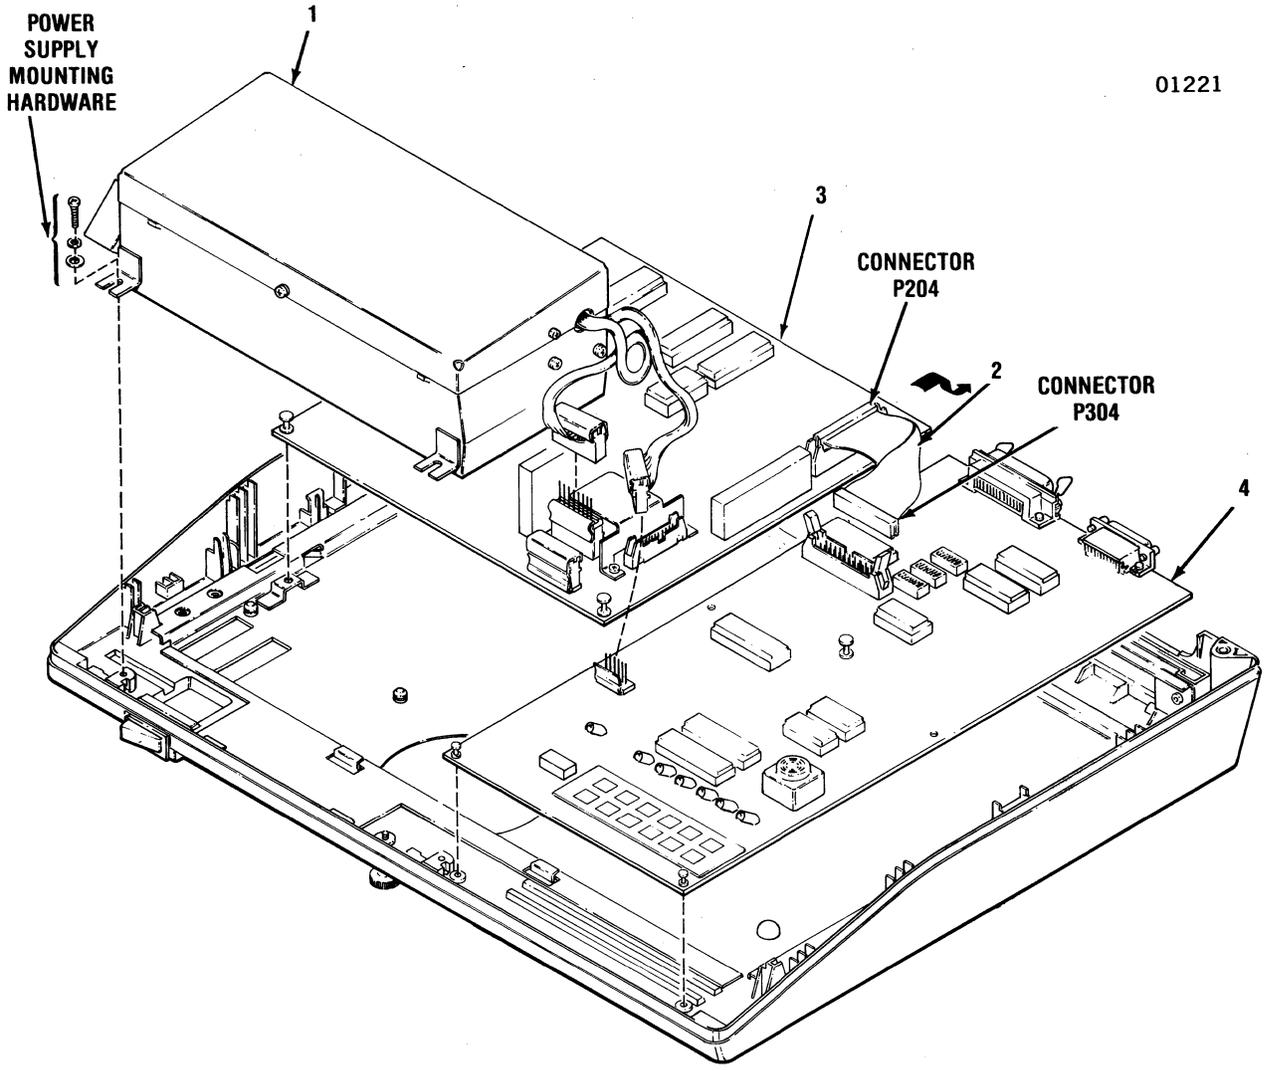

Figure 5-18. REMOVAL/REPLACEMENT POWER SUPPLY ASSEMBLY, FORMAT/CONTROLLER CABLE PRINT CONTROLLER PCB AND FORMAT CONTROLLER PCB
The power supply assembly, item 1A or 1B of Figure 5-18, is mounted to the printer base and is removed using a Phillips head screwdriver. To remove the power supply, refer to Figure 5-18 and perform the following steps:
The format/controller cable, item 2 of Figure 5-18, connects the Print Controller pcb and Format Controller pcb. To remove the cable, refer to Figure 5-18 and perform the following steps:
The Print Controller pcb, item 3 of Figure 5-18, is mounted to the printer base and no tools are required to remove the board. To remove the Print Controller pcb, refer to Figure 5-18 and perform the following steps:
The Format Controller pcb, item 4 of Figure 5-18, is mounted to the printer base and no tools are required to remove the board. To remove the Format Controller pcb, refer to Figure 5-18 and perform the following steps: